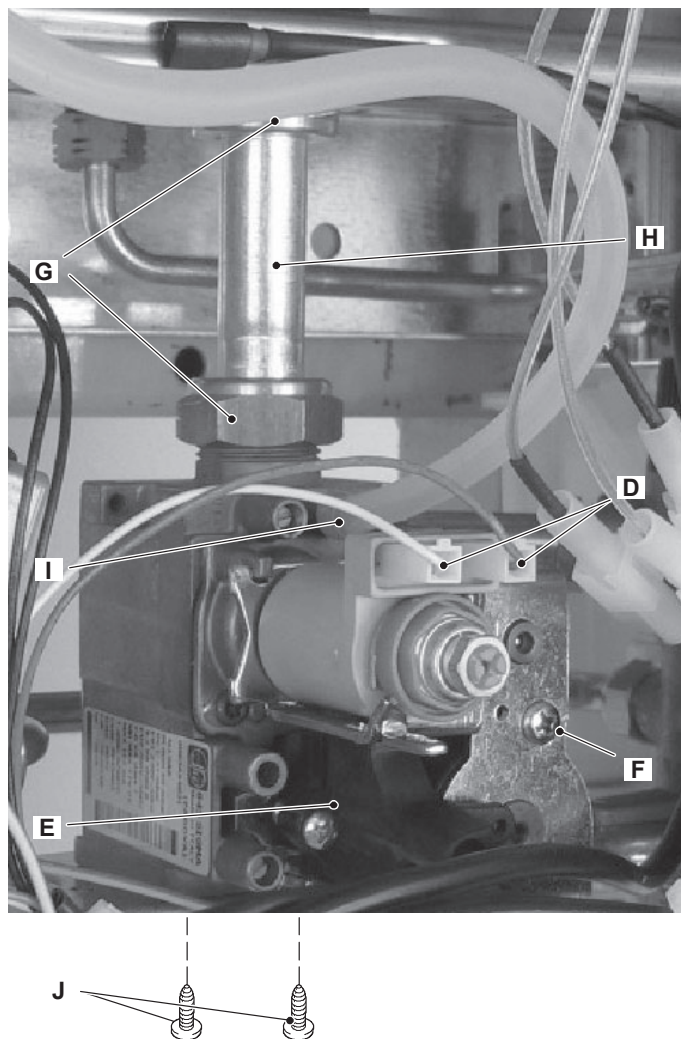

Figure 9.5
- 2 Disconnect the connectors D (Figure 9.5) from the modulating operator and measure the electrical resistance of the coil. Its electrical resistance value must be approx.  $80 \Omega^*$ .
- 2 Disconnect the electrical connector E (Figure 9.5).
- 2 Disconnect the connector E (Figure 9.5).
- 2 Disconnect the connectors D and E (Figure 9.5).